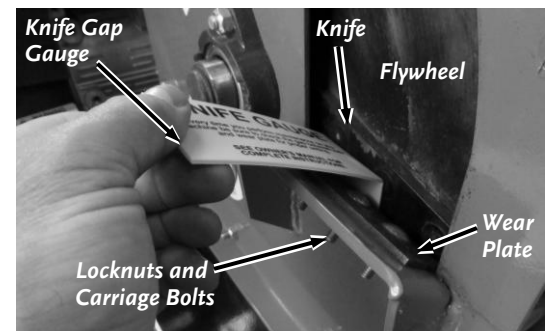

Figure 6
2. Use a stick to rotate the Flywheel so the Knife is positioned next to the Wear Plate (**Figure 6**).